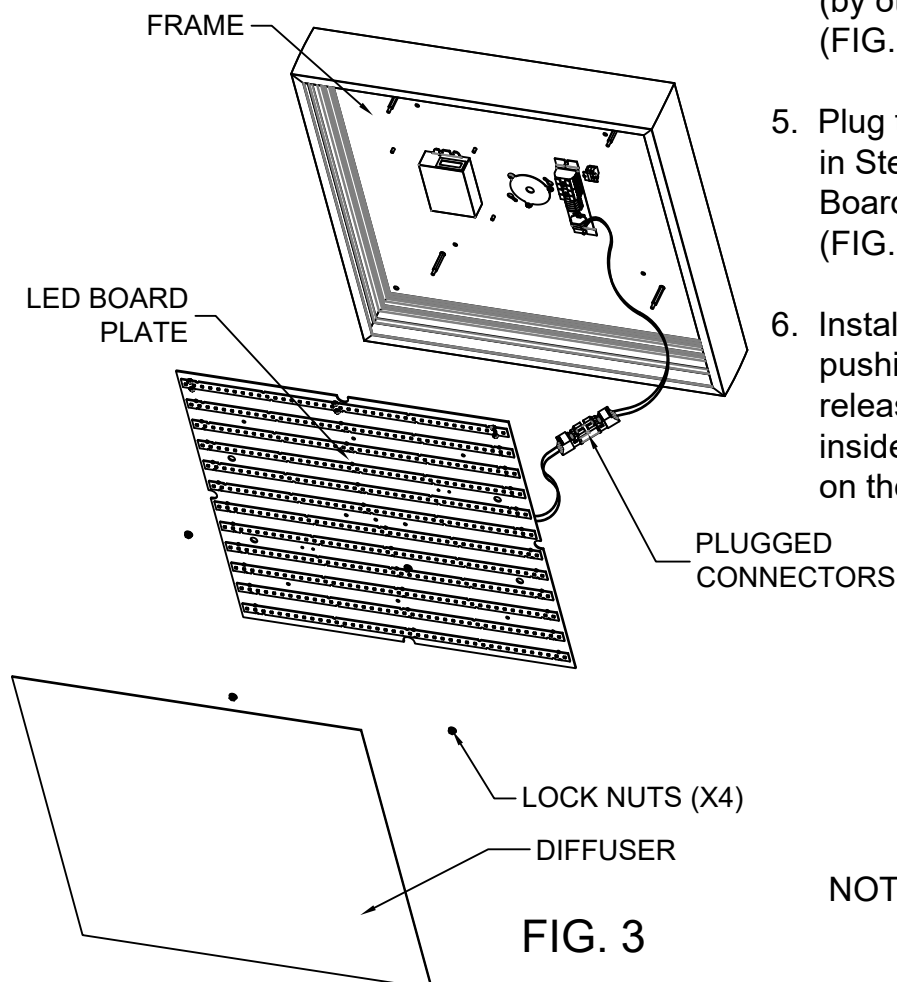

FIG. 3
5. Plug the connectors that were disconnected in Step 1 back together. Mount the LED Board plate and secure with lock nuts. (FIG.3)